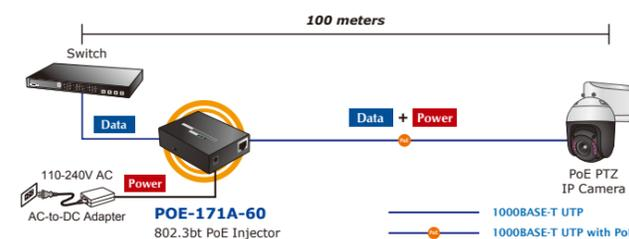

Figure 3: Architecture of Connected IEEE 802.3af/at/bt Devices
4. The POE-171A series, adopting the IEEE 802.3af/at/bt technology, can directly connect with any IEEE 802.3af/at/bt end-nodes, such as PTZ (pan, tilt & zoom) network cameras, PTZ speed dome cameras, color touch screen, Voice over IP (VoIP) telephones and multi-channel wireless LAN access points as the screen in Figure 3 is shown below.